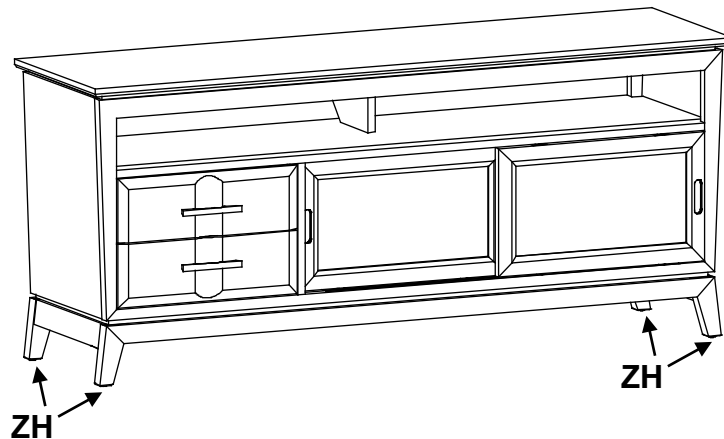

Fig. 2
2. Place the chest at its final destination. Rotate the Small Adjustable Glides (ZH) on the bottoms of the legs until the unit is level. See Figure 2.